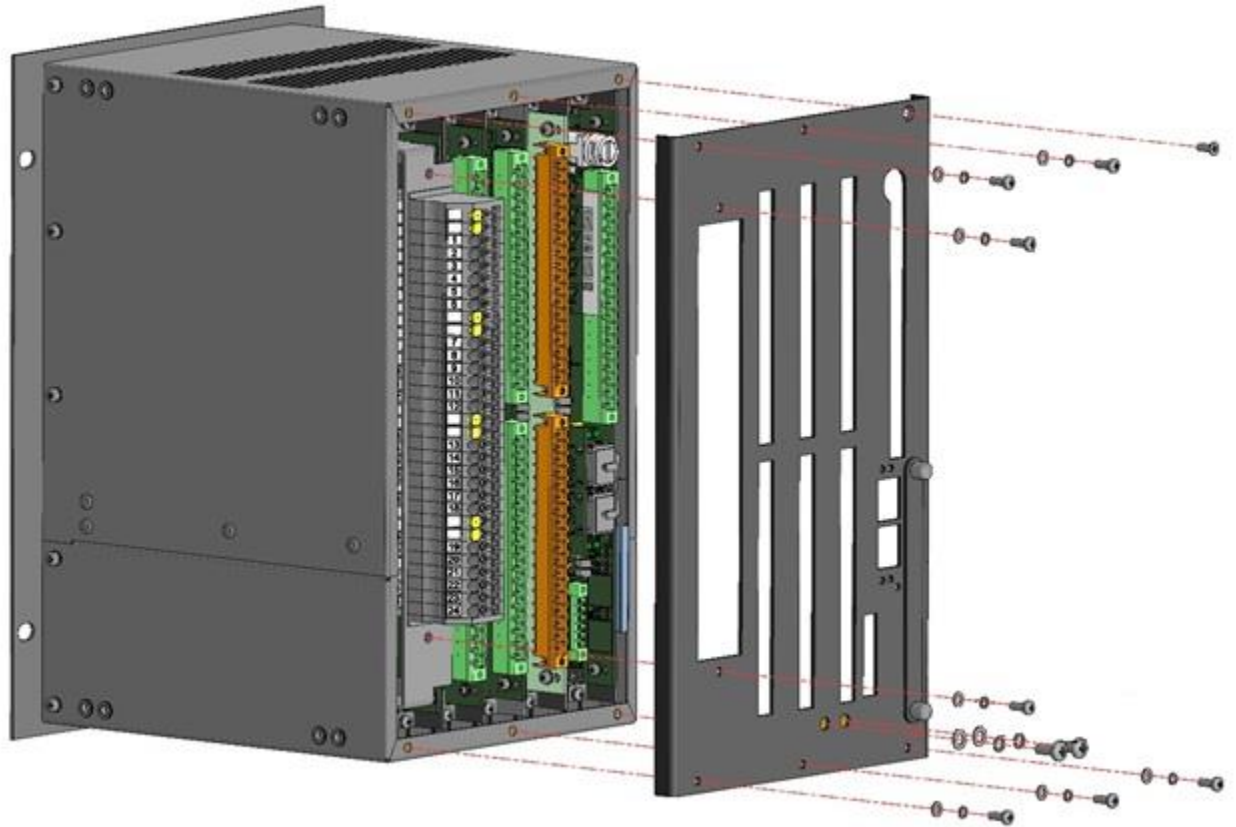

Figure 119 – Location of screws securing back plate
13.5.1.4 Remove the back plate of the device by unscrewing all the fastening screws, and unscrew the two screws securing the module to the frame, in case of the module version without the front plate (figure 119).